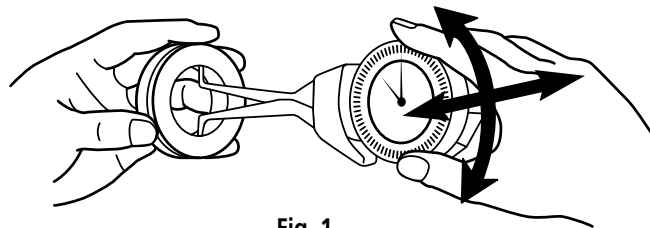

Fig. 1
3. Using a reference standard (setting ring, micrometer, master gage, etc.) adjust the initial setting by reading the minimum value indicated by the dial pointer while moving the measuring arm in up/down, right/left directions. (**Fig. 1**)